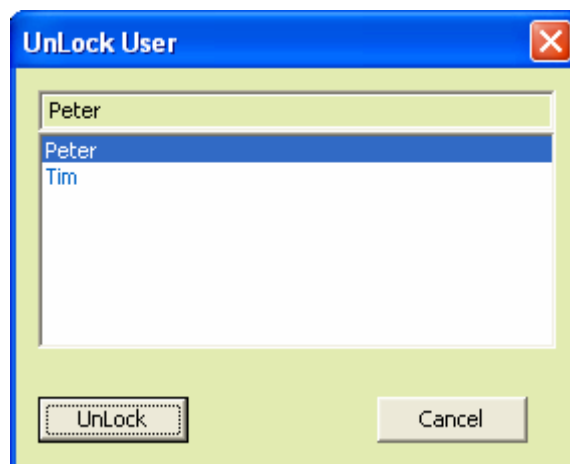

Figure 50 : Unlocking a user
1. On the menu bar, click **Settings** menu and then click **Unlock User** sub menu. The Unlock User dialog appears (Figure 50).